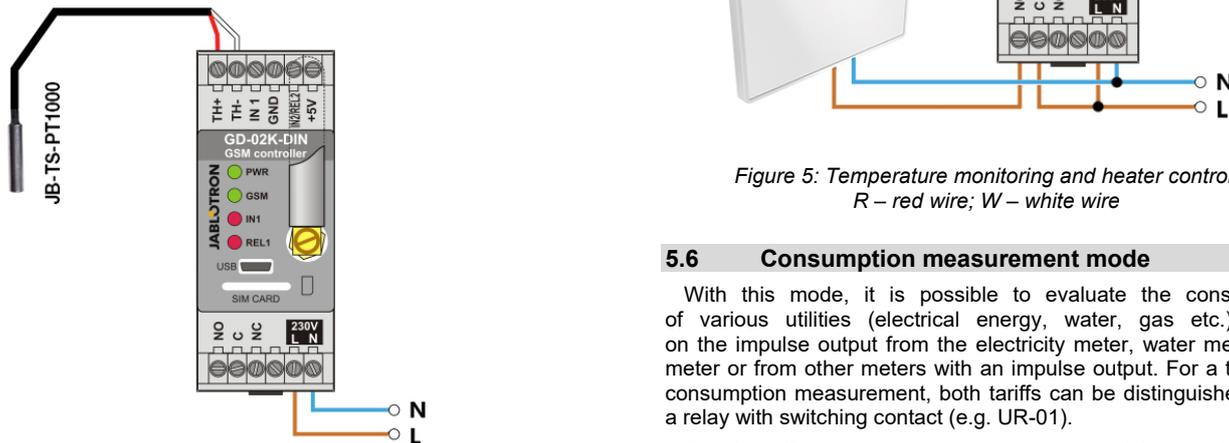

Figure 4: Temperature monitoring.
- Mind the correct polarity when connecting the temperature sensor (red wire =TH+, white wire =TH-), see Figure 4.